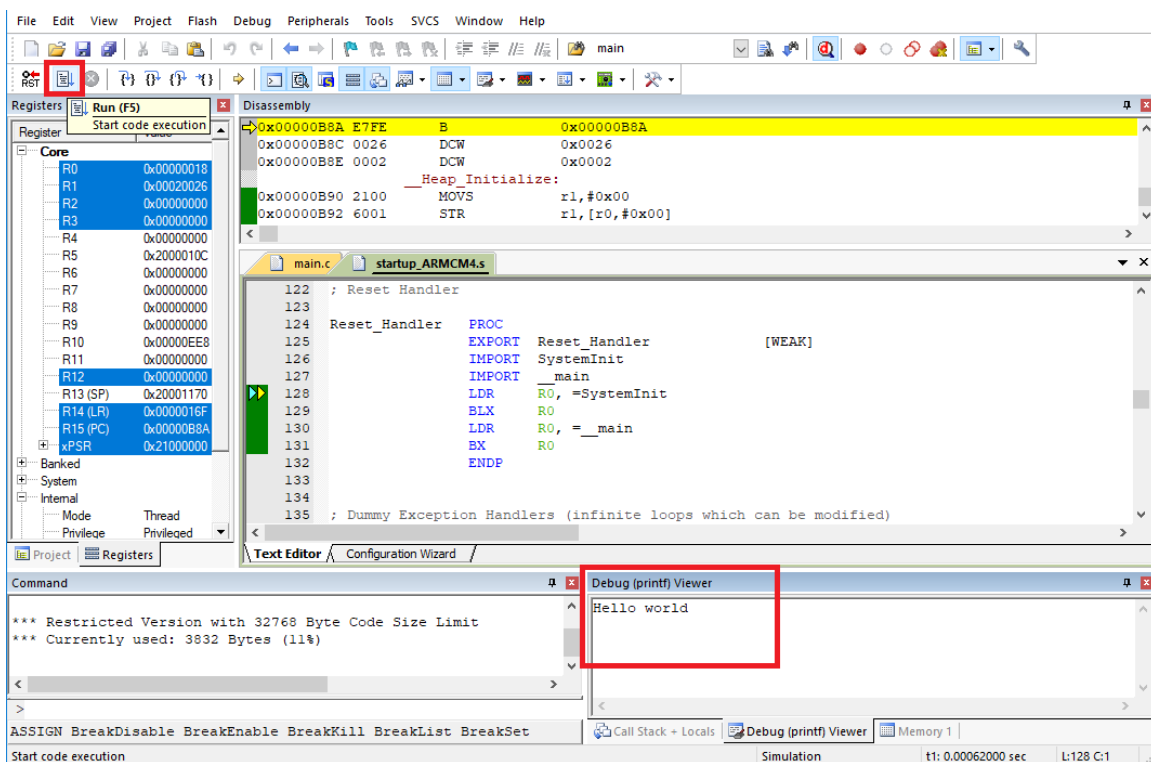

Figure 18: Executing the code.
6. Finally, execute your code by clicking the 'run' button or using the keyboard shortcut F5 as shown in Figure 18. You should see "Hello world" printed in the printf viewer. We can exit debug mode by clicking on the debug button.